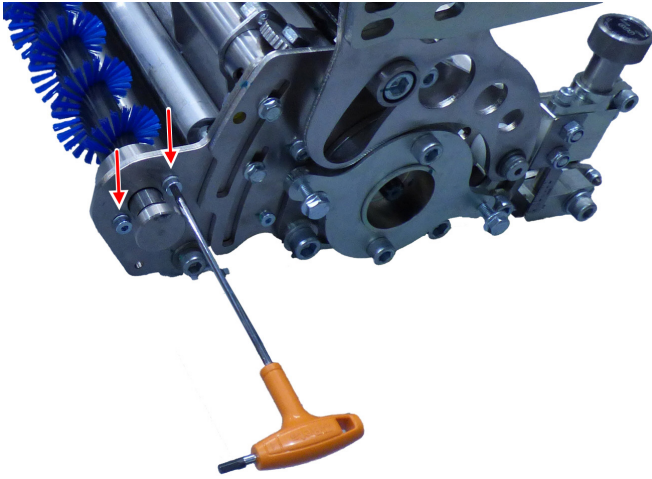

Figure 29
- Loosen the two nuts, shown in Figure 29.